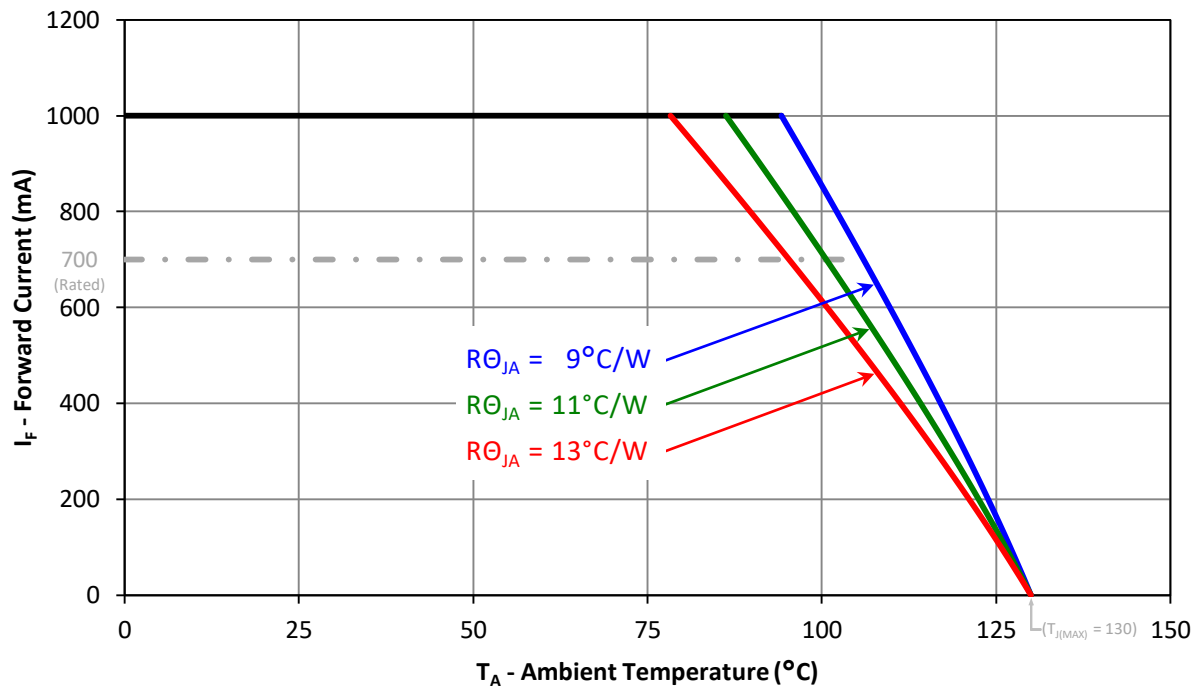

Figure 11: Maximum forward current vs. ambient temperature based on $T_{J(MAX)} = 130^\circ\text{C}$.
- Maximum DC forward current is determined by the overall thermal resistance and ambient temperature. Follow the curves in Figure 11 for current derating.
Notes for Figure 11: